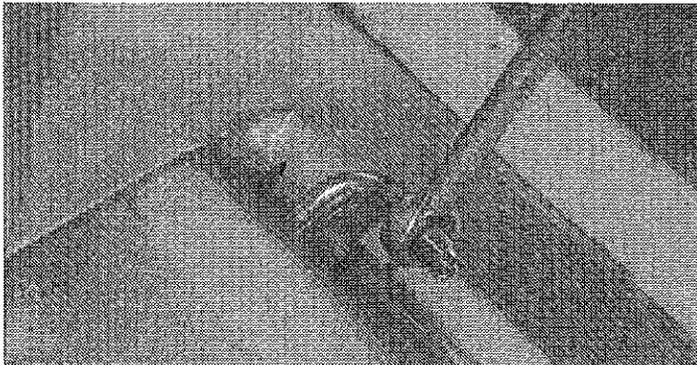

Figure 5.3 Remove the Burner Orifice - Novus ND/NB Series
- Using a 1/2 in. wrench, remove the threaded orifice (see Figure 5.3), discard and replace with the appropriate orifice. Make sure the orifice is screwed on completely. Failure to have the orifice completely screwed on will result in the valve plate assembly not fitting together properly.